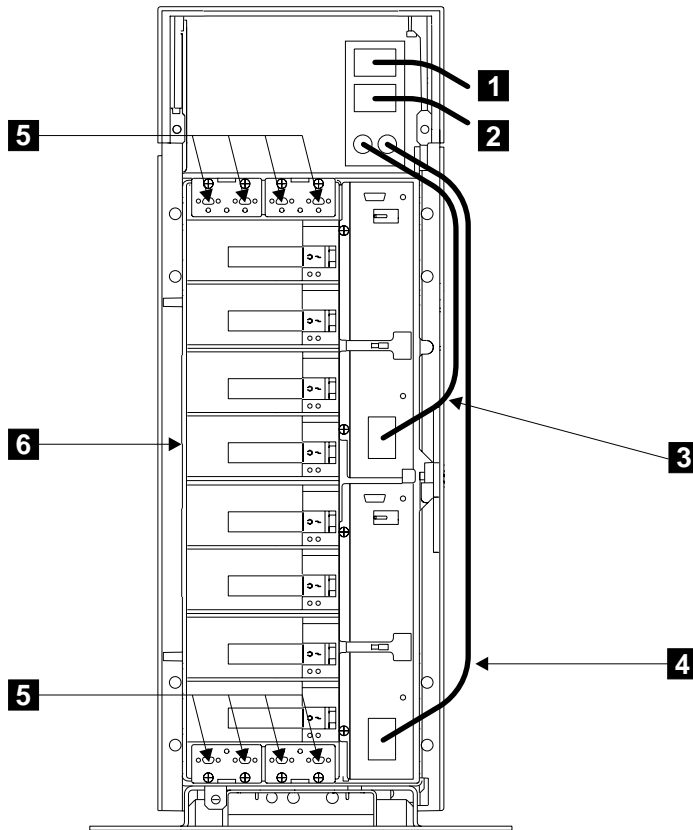

Figure 40. Power Cables and SSA Sockets (Model T40)
1. Refer to Figure 40.
8. Check for continuity between the **frame of the 7133** (**6** in Figure 40 on page 69) and the **ground pin** of each power cable.
16. Unplug the short cables (**3** and **4** in Figure 40 on page 69), and check for continuity between the **frame of the 7133** and the **ground pin** of the power connector on each power supply assembly (see Figure 19 on page 33).